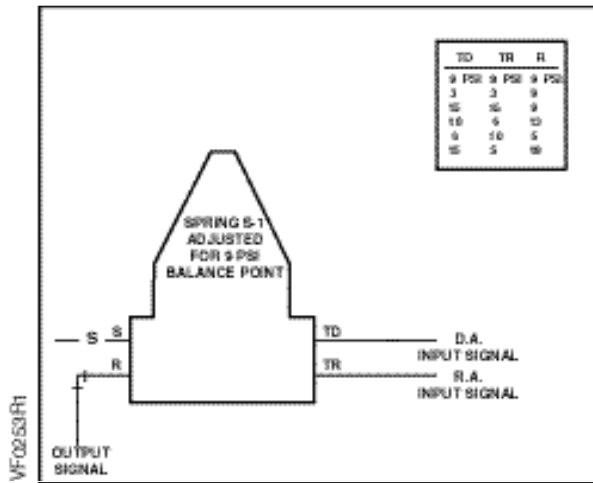

Figure 3. Balancing Relay.
2. Balancing relay (See Figure 3).